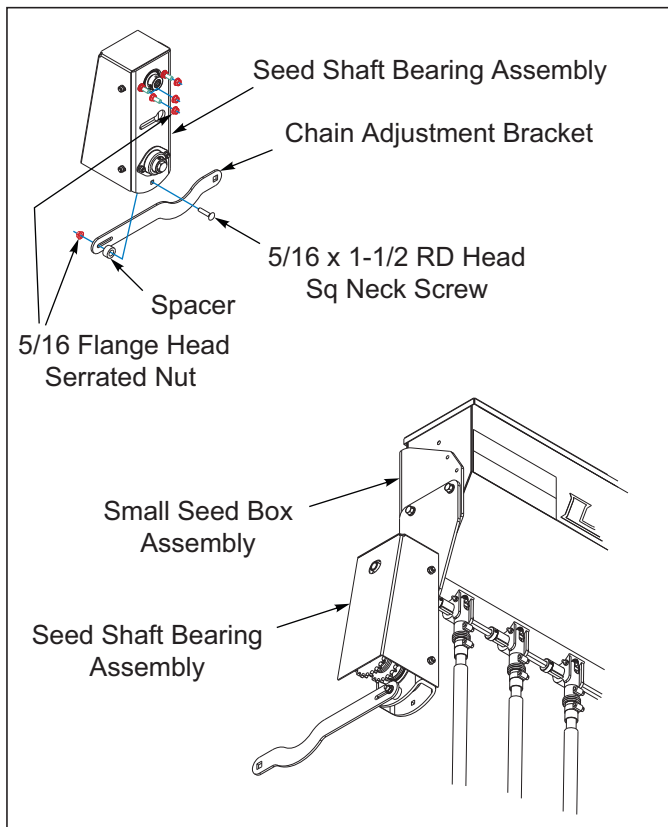

Figure 3-4: Attaching Chain Adjustment Bracket to Small Seed Bearing Assembly
7. Remove the three outer locking nuts on the seed shaft bearing assembly See Figure 3-4. Slide the bearing assembly over the small seed square meter shaft. Insert the bearing assembly mounting screws into the small seed drive mount located on the end of the small seed box assembly. Loosely install the three locking nuts to hold the bearing assembly in place.
10. Attach the slotted rear hole of the chain adjustment bracket to the outer hole of the small seed bearing assembly with a 5/16-18 x 1-1/2 round head square neck screw, 1" OD spacer and hex flange nut **See Figure 3-4.**